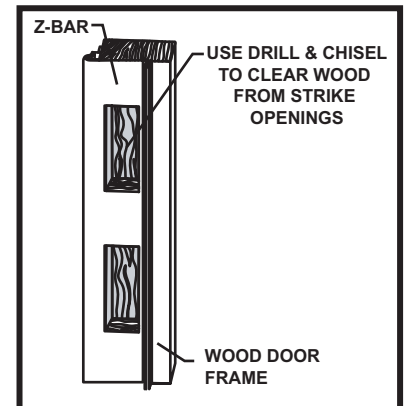

FIGURE 7
H. Centerpunch and drill 1/8" pilot holes and install the (2) #8 flat head screws in the edge of the door securing latch assembly to the door.
A. Using a drill and chisel, clear the wood from the strike openings behind the "Z" bar 3/4" deep. **See Fig. 7.**